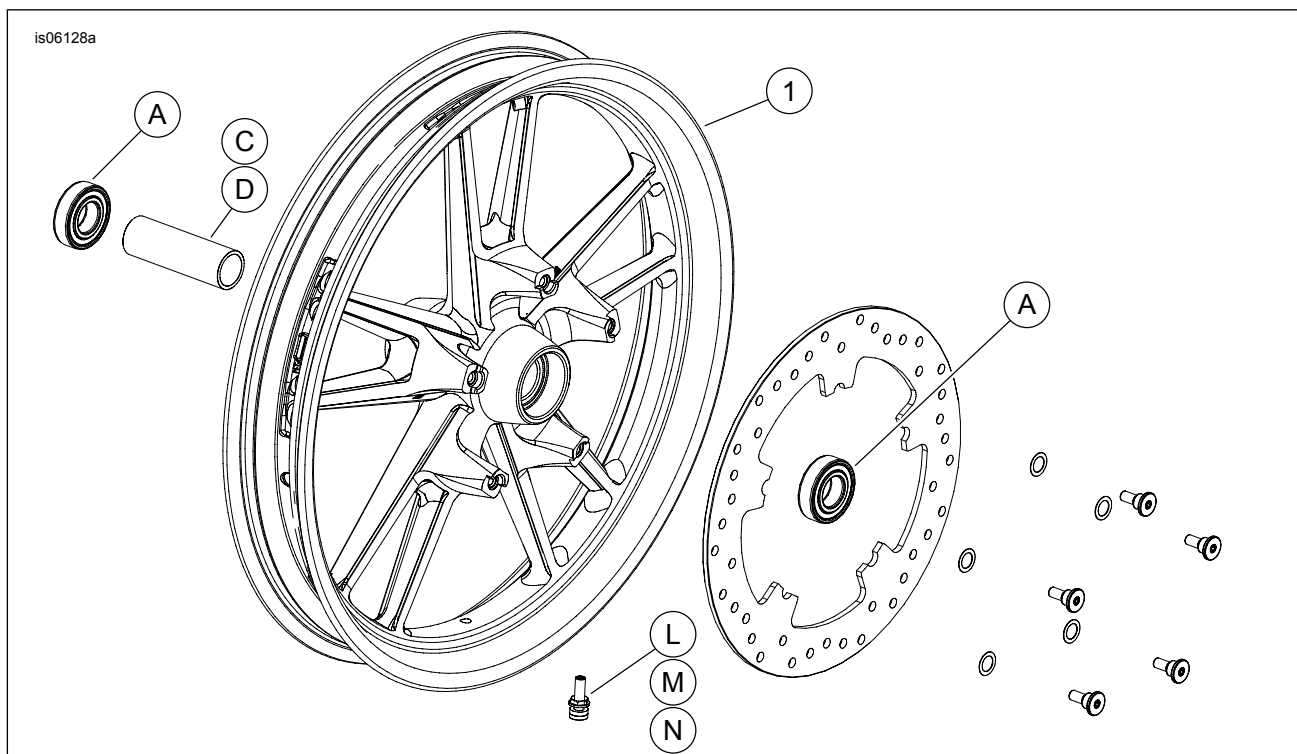

Figure 1. Service Parts: Front Switchblade Wheel (19 inch shown)
See Figure 1 and the Service Parts Tables.
2. See Figure 1. Install valve stem assembly (L) on wheel. Refer to the service manual.
6. Install front wheel (1) and stock axle. See the service manual.